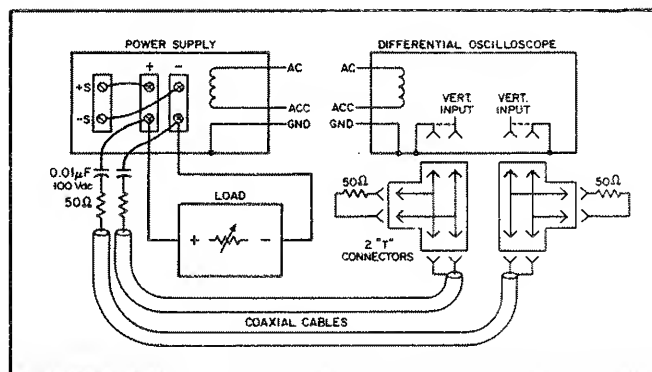

Figure 5-4. Constant Voltage Noise Spike Measurement Test Setup
5-27 Figure 5-4 shows the test setup used to measure noise spikes. Two coaxial cables must be used. Impedance-matching resistors must be included to eliminate standing waves and cable ringing, and capacitors must be connected to block dc. The length of the test leads outside the coaxial cable should be kept as short as possible. The blocking capacitor and impedance-matching resistor should be connected directly from the inner conductor of the cable to the power supply sensing terminal. Notice that the shields of the two coaxial cables are not connected to the power supply.
- Connect test setup shown in Figure 5-4.
5-29 The circuit of Figure 5-4 can also be used for the display of low-frequency ripple. Simply remove the four terminating resistors and the blocking capacitors.